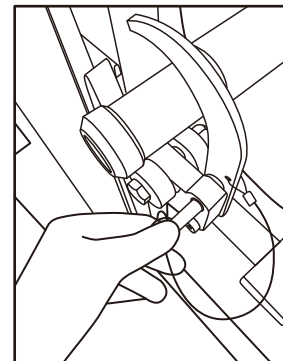

Fig. 4
7. Lift Safety Hook into position and insert hitch pin (Fig 4).